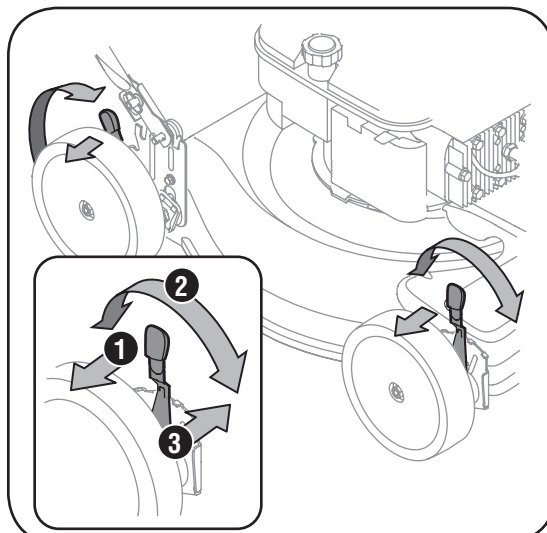

Figure 3-7: Use lever at each wheel to adjust cutting height.
1. Pull the lever out and away from the mower. See Figure 3-7.